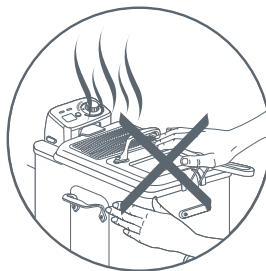

Fig. 15
- Do not touch hot surfaces when cooking – fig.15.